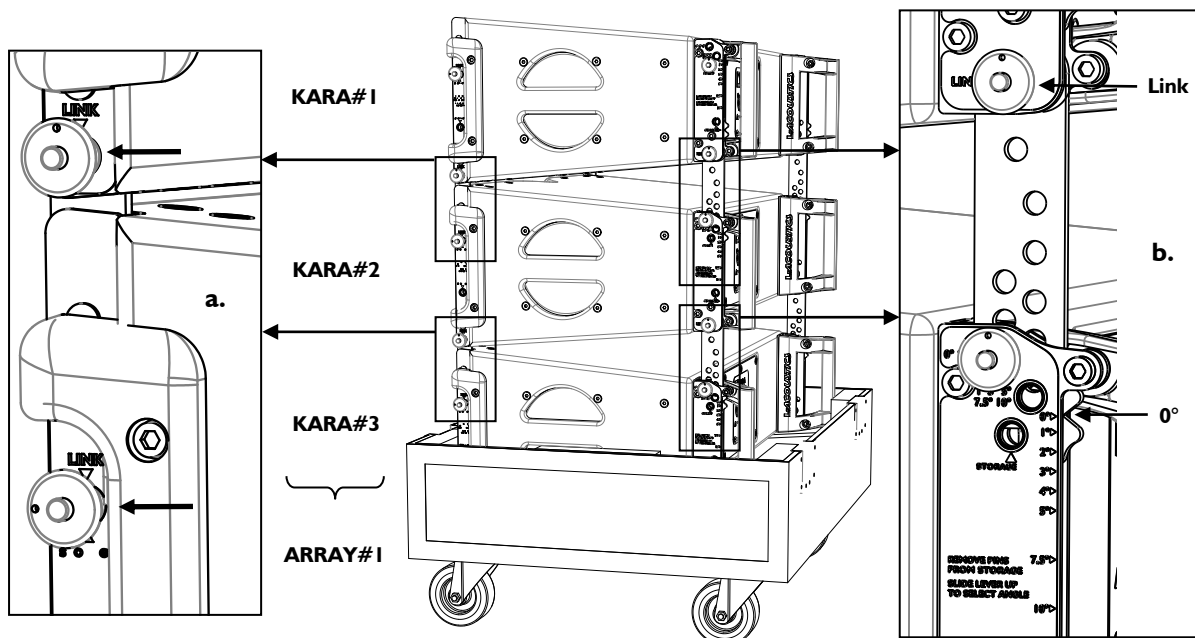

Figure 44: Inter-enclosure connection check for ARRAY#1
1. Place a full KARA flight-case at the rigging location and remove the lid. Direct the front face of the 3-KARA array towards the audience. In the following, the array will be designated as ARRAY#1 and the enclosures as KARA#1 to KARA#3 from top to bottom (see Figure 44).